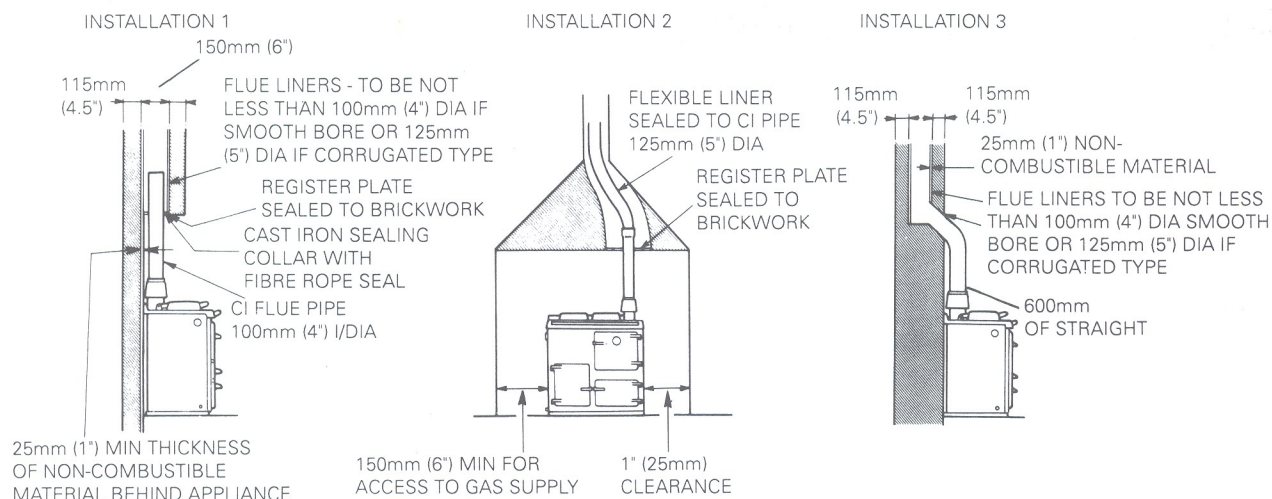

Fig.5
4. Connect and terminate the flue system in accordance with standard practice. See Fig.5.